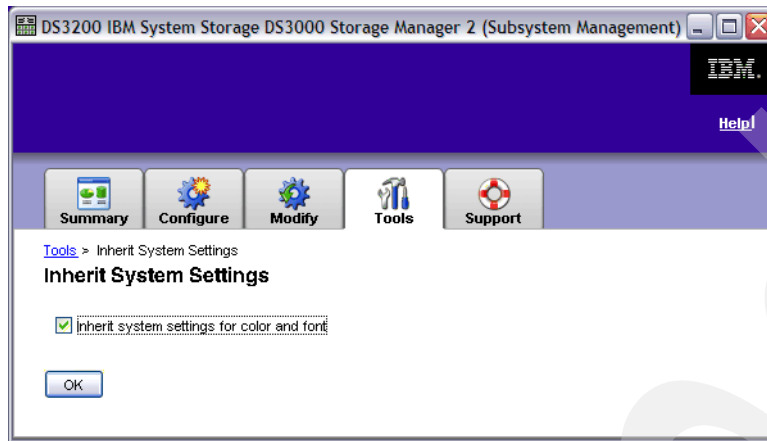

Figure 12-32 Inherit System Settings
2. In Figure 12-32, select the **Inherit system settings for color and font** check box if you want to inherit the settings from the operating system and click **OK**.